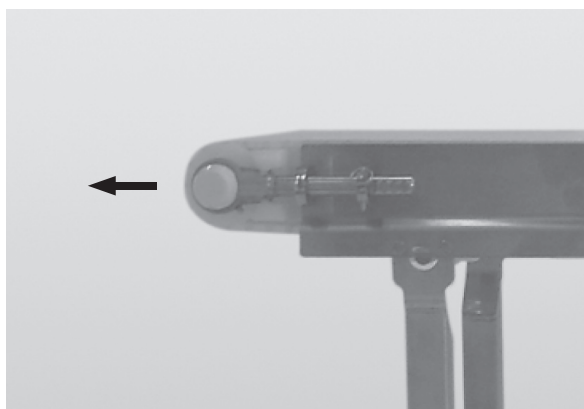

Figure 32
7. Extend the tension end to remove excess slack in the belt (Figure 32).